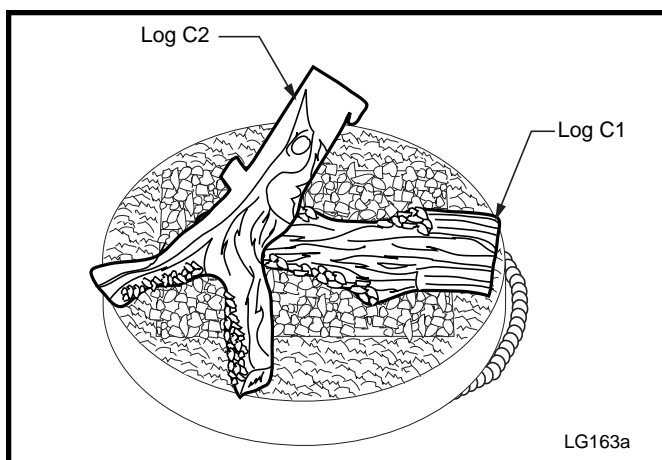

Fig. 12 Log C2 placement.
- Move around so that flex line is now on your right. Place log C2 with “Y” part of log toward the outside of the burner ring. (Fig. 12)